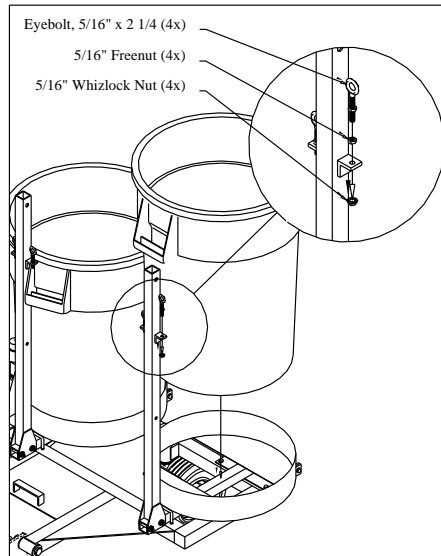

Fig. 5
5. Place containers (21) into container frames, rotate the handles to the inside of the vertical uprights. Spin 5/16" nut onto the eyebolt (44) about half way. Slip eyebolt with nut through the hole in the bracket on the side of vertical upright (4) and secure with a 5/16" whizlock nut. See Fig. 5